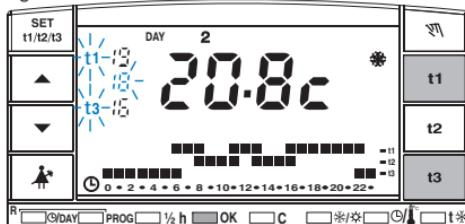

fig. 2
a) To store both temperature limits: press **t1**, then press **t3**; the relative values will be fixed on the display with the symbols **t1** and **t3** blinking alongside. Press **OK** to confirm (fig. 2): the chronothermostat will revert to the currently activated program.